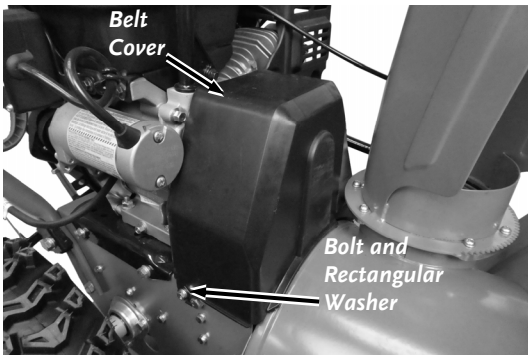

Figure 40
1. Remove the two Bolts and rectangular Washers from the Belt Cover using a 10mm Wrench and remove the Belt Cover (**Figure 40**).